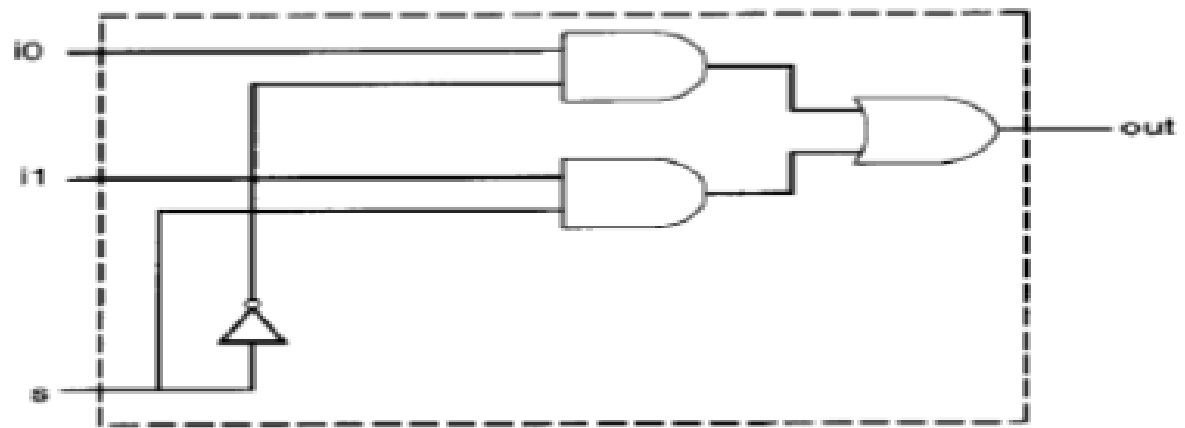

Figure 14-3 Multiplexer Description
- It frequently translates to the gate-level representation shown in Figure 14-3.
- The above statement will frequently translate to the gate-level description shown in Figure 14-3. In general,